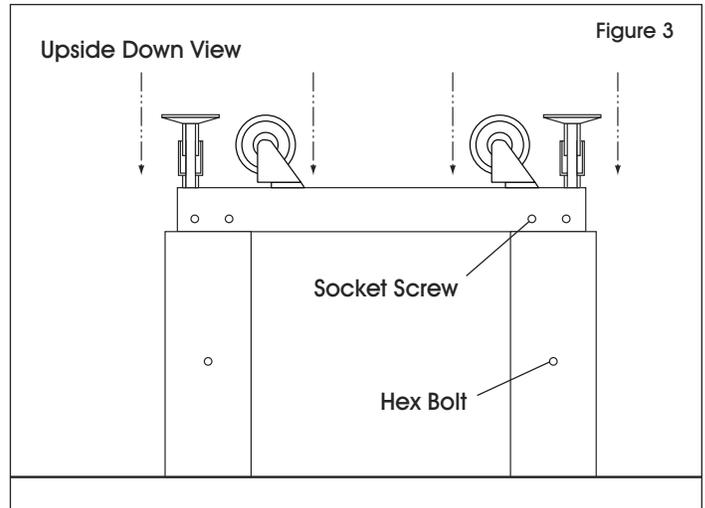

Figure 3
4. Screw feet into threaded holes provided on bottom of the shelf. Insert casters into nylon insert next to feet. (See Figure 3)